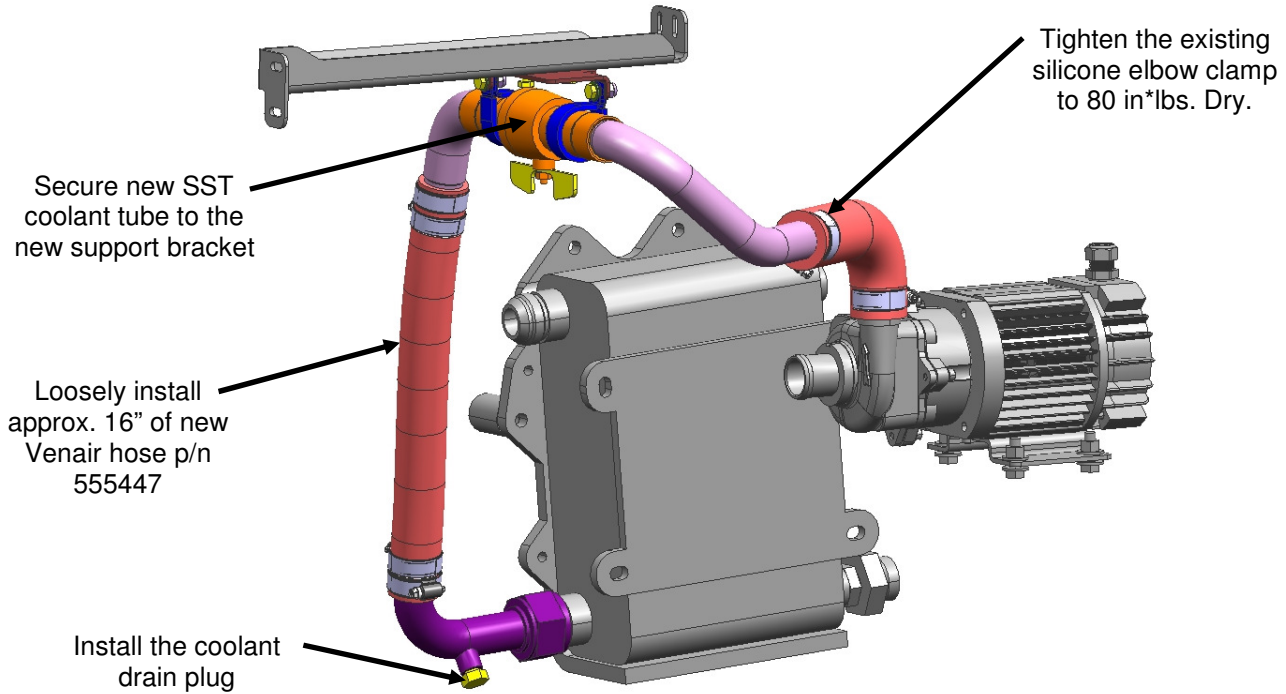

Figure 5: Cabin Heat Coolant Tube Assembly Installation
- Loosely install approx. 16" of new Venair hose p/n 555447 (trim hose to fit) between existing heat exchanger cabin heat SST elbow and newly installed tube assy from Step 15 using existing hose clamps removed in Step 10, qty's of clamps may vary depending on the install. See Figure 5.